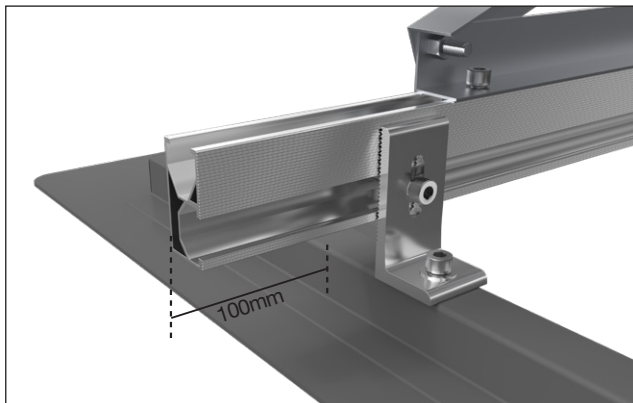

Figure 3
- Rail attachment must extend minimum 100mm past EJOBAR profile as shown in **figure 3.**